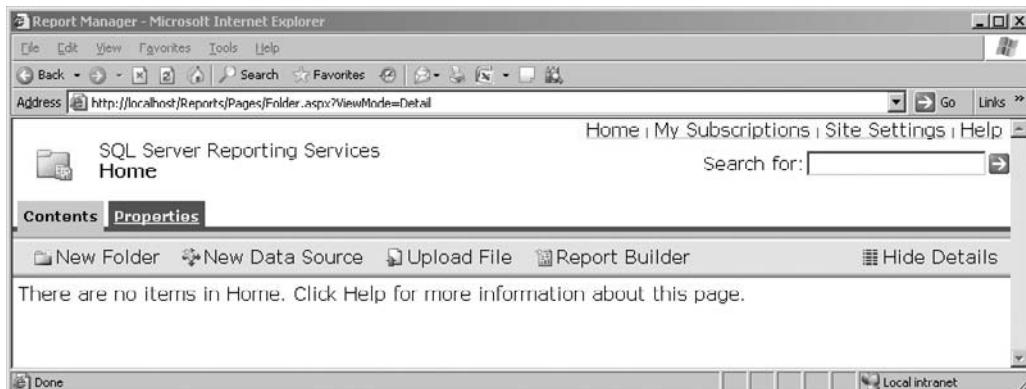

Figure 17-1 The Report Manager with no folders defined
No matter how we get there, the Report Manager appears similar to Figure 17-1.
*Figure 17-1 shows the Report Manager as it appears for a user with content manager privileges. If you do not see the New Folder, New Data Source, Upload File, and Report Builder buttons on the toolbar on the Contents tab, you do not have content manager privileges and will be unable to complete the exercises in this section of the chapter. If possible, log out and then log in with a Windows login that has local administration privileges on the computer running the report server.*